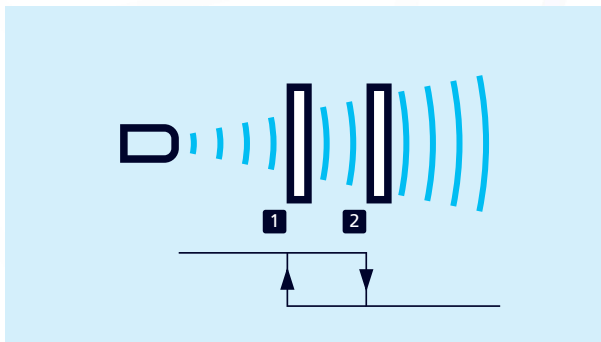

Fig. 10: Hysteresis mode, two point
- The state of the switching output changes when the object reaches switching point 1 and changes back to the previous state when the object reaches switching point 2 (see Fig. 10). Two-point control can be realised using this operating mode. A typical application is filling level control, e.g. in a tank with a maximum level (switching point 1) and a minimum level (switching point 2).